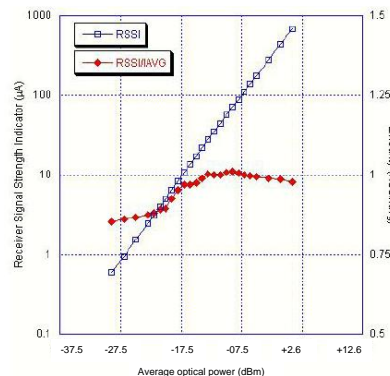

Figure 5 - Typical average monitor current and RSSI voltage (one channel)
- ❑ **Receiver Signal Strength Indicator (RSSIx):** the DC/low-frequency outputs source a current proportional to the average input photocurrent (internally loaded by a Resistor to provide a Voltage output) of the corresponding channel provided that  $V_{RSSIx}$  is within the operating range specified ( $V_{RSSIx} \leq 2.0$  V) to obtain best linearity (see receiver characteristics table). This output can be used to monitor the optical power incident on the photodiode. It may be left open if not used. The upper corner frequency of the output is equal to the roll-on frequency  $f_{LOW}$  of the high-speed data path (Figure 5 & Receiver characteristics table).